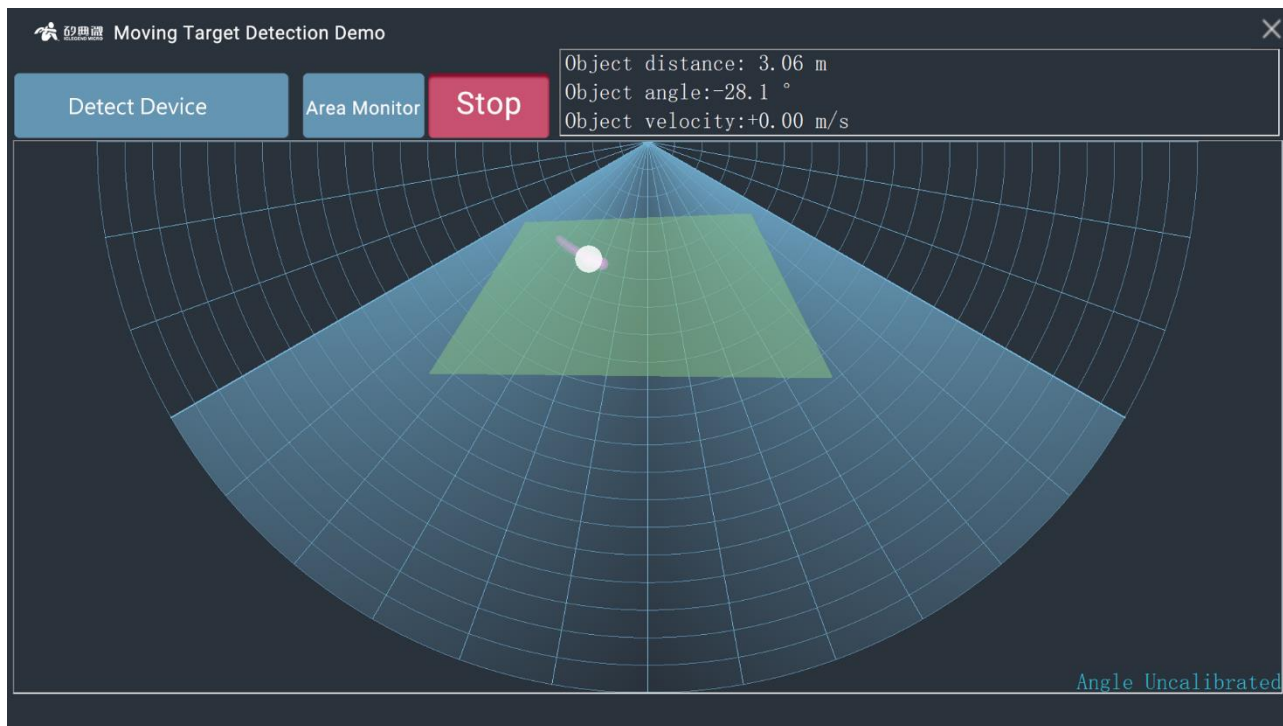

Figure 4-6 Moving Target Detection demonstration GUI when running
4. Click “Start” button, the host PC starts receiving distance and angle information from EVBKS5 board, and presents target as a dot (as shown in Figure 4-6) in the fan-shaped area in demonstration GUI; meanwhile, the “Start” button turns to “Stop”;